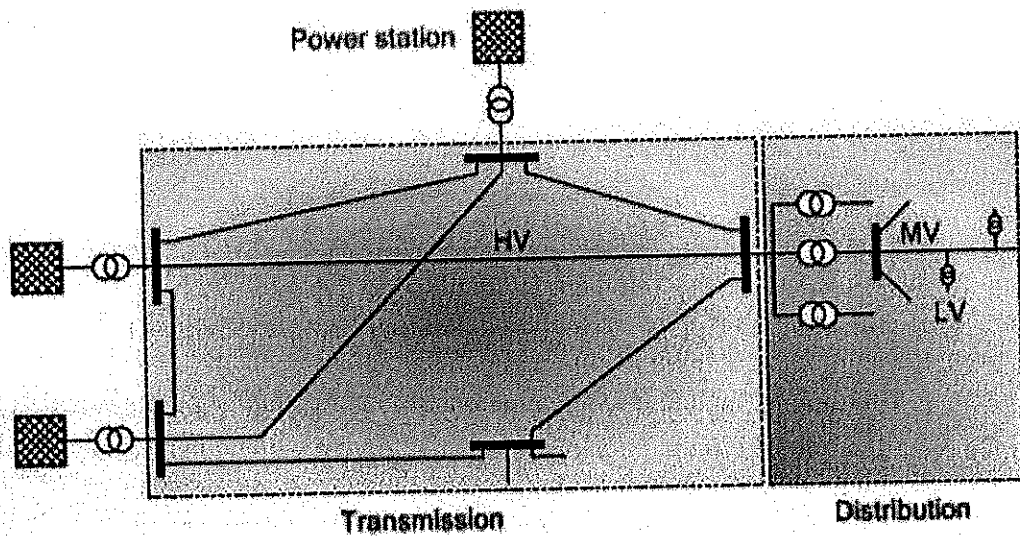

Figure 1.1. A simplified one-line diagram of the power system
The one-line diagram shown in Figure 1.1 illustrates today's Electrical Power System (EPS) and its major components: generation, transmission and distribution. Electric power is generated at power stations predominantly by synchronous generators that are mostly driven by steam or hydro turbines. Hence, the electric power generated at any such station usually has to be transmitted over a great distance, through transmission systems to distribution systems. The distribution networks distribute the energy from the transmission grid or small/local Distributed Resources (DR) to customers. The three mentioned components – generation, transmission and distribution – have different influences, individual and sometimes common, on the level of the quality of delivered electrical energy. There are many issues involved, such as the maintenance of power apparatus and system, the stability of the operation system, faults, distortions, loads non-linearities etc. One must understand the potential impact of failure within one component on the performance of the whole. For example, a failure in the generation component may lead to failure in the transmission system and in a consequent loss of load in the distribution system, while a failure in the transmission component may lead to failure in the generation component and subsequent loss of customer load in distribution. A failure in the distribution system rarely leads to failure in the other two components and causes very minimal, local losses of customer load. Some of these problems are related to power transmission systems and some of them to power distribution systems, but all are fundamental from the point of view of quality of delivered power.